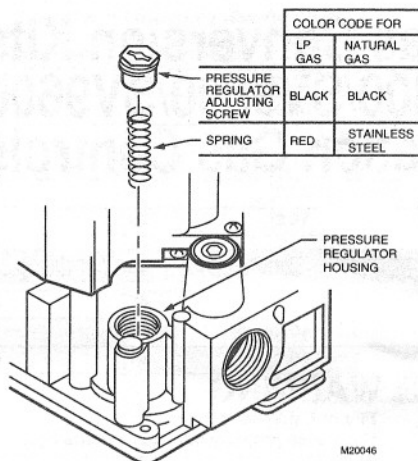

Fig. 2. Conversion kit installation in regulator.
4. Insert the replacement spring. Refer to Fig. 2.